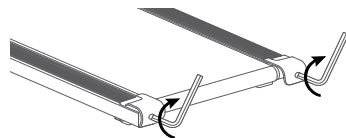

Figure.3
c. Fold up console (Fig. 3).
2. Using the **5mm L-type** hex tool, turn both idler roller screws clockwise **1/2** of turn(refer to figure 3).